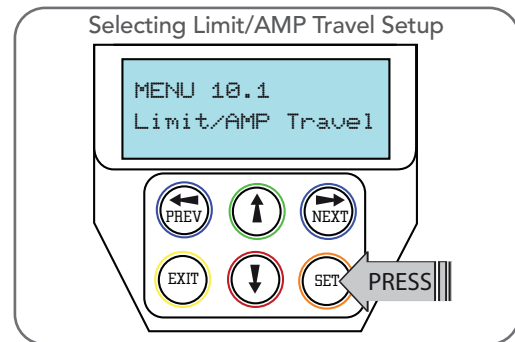

Fig 8.1
- Press SET again to start the limit setting procedure (**Fig. 8.1**).